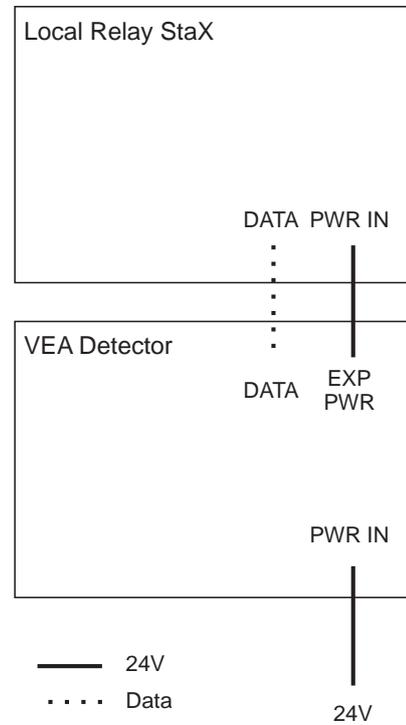

Figure 4-21: Single VEA detector and Local Relay StaX
- Detector with single Local Relay StaX (Figure 4-21)